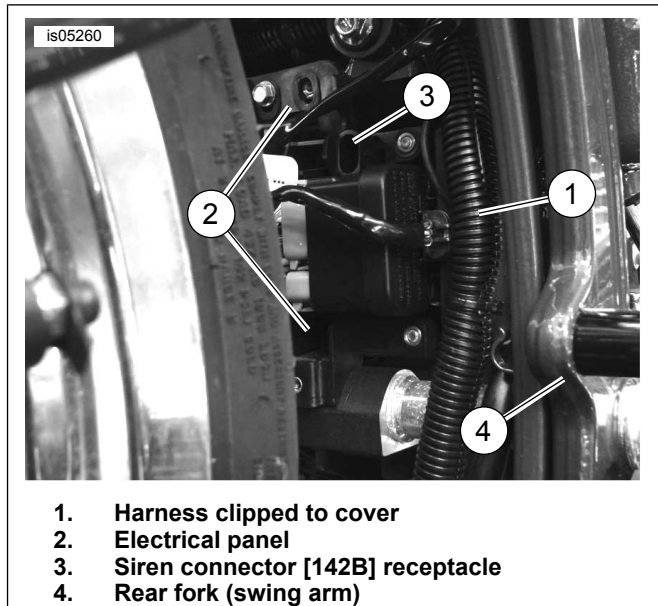

Figure 18. Electrical Panel (FXCW/C Models)
2. See Figure 18. Unfasten the harness (1) clipped to the right side of the electrical compartment cover (splash guard, already removed in photo) just forward of the rear wheel. Remove the two hex socket head screws with washers fastening the cover and remove the cover from the vehicle.